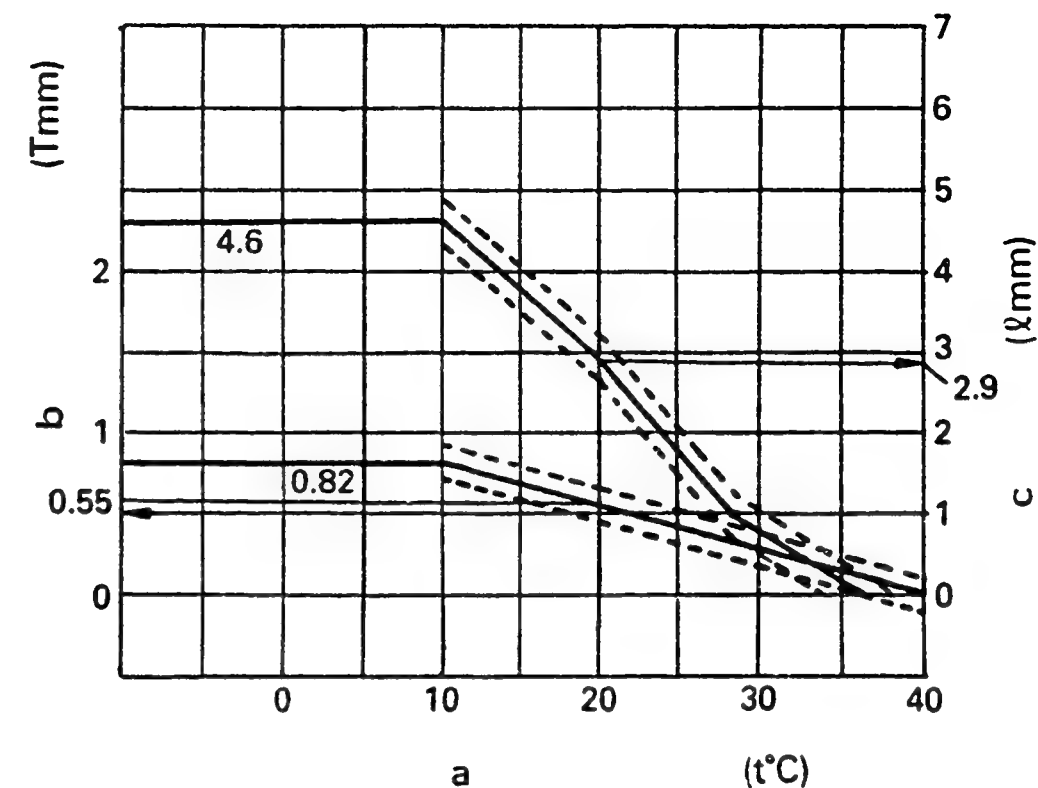

Fig. 42
Calculate the timer stroke from Fig. 42 according to the atmospheric temperature at the time of adjustment. Adjust using timer stroke adjusting screw (1) so that the timer stroke is as calculated in Fig. 42.
Formula for calculating (Fig. 42)
Insert the thickness gauge $l = \pm 0.05$ mm, as shown in the diagram (Fig. 42), between the idling adjusting bolt (7) and the control lever (6), and tighten the idling stopper bolt (2) at the point where the roller of the CSD lever (3) touches the intermediate lever (4).